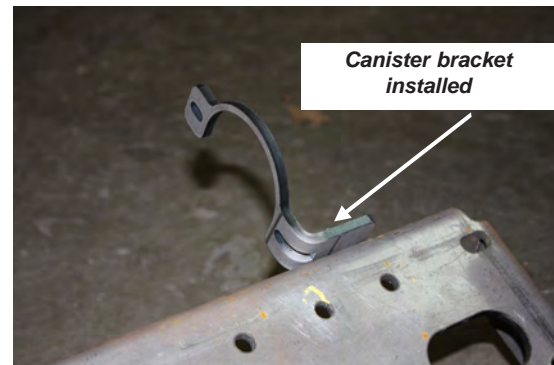

Figure 15
11. Attach the Canister Relocation Bracket to the rear of the Bumper as shown in Figure 15. Use 1/4-20 x 1" capscrews, flat washers and lock nuts. Do not tighten yet.